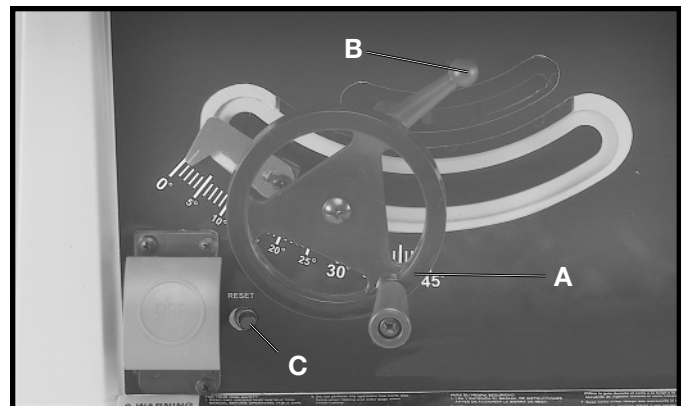

Fig. 39
Your saw is equipped with a reset overload relay button (C) Fig. 39. If the motor shuts off or fails to start due to over loading (cutting stock too fast, using a dull blade, using the saw beyond its capacity, etc.) or low voltage, turn the switch to the **“OFF”** position. Let the motor cool three to five minutes and push the reset button (C), which will reset the overload device. The motor can then be turned on again in the usual manner.
To raise or lower the saw blade, turn handwheel (A) Fig. 39. Turning the handwheel clockwise lowers the blade and turning the handwheel counterclockwise raises the blade.
⚠ WARNING THE BLADE TILTING LOCK HANDLE (B) FIG. 39, MUST BE LOCKED DURING ALL CUTTING OPERATIONS.